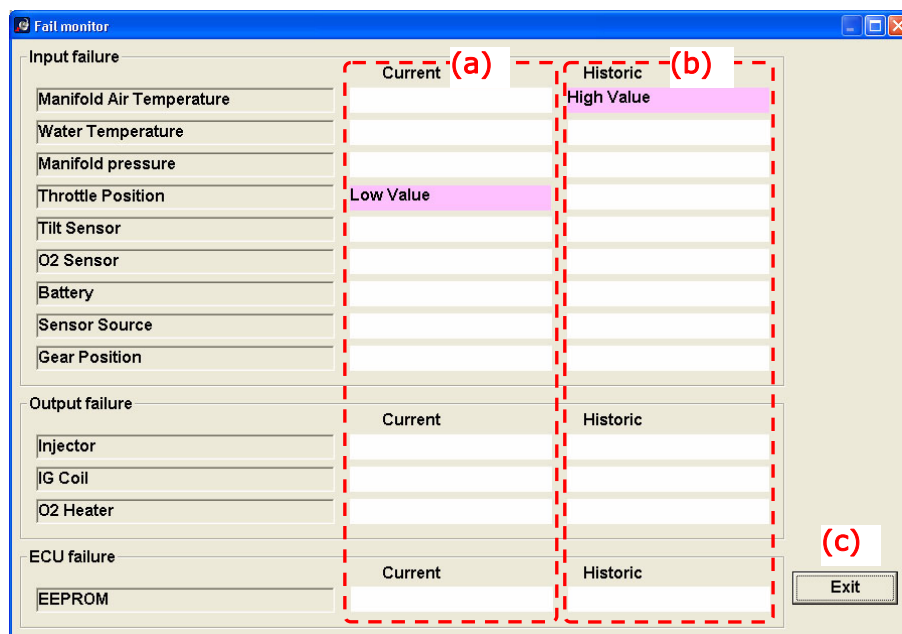

Fig. 9-1-1
The [**Current**] row (Fig. 9-1-1 (a)) shows details of failure currently has detected.
The [**Historic**] row (Fig. 9-1-1 (b)) shows details of failure that were previously detected.
- (2) Press the [**Exit**] button (Fig. 9-1-1 (c)), the Diagnostic Monitor window will close.